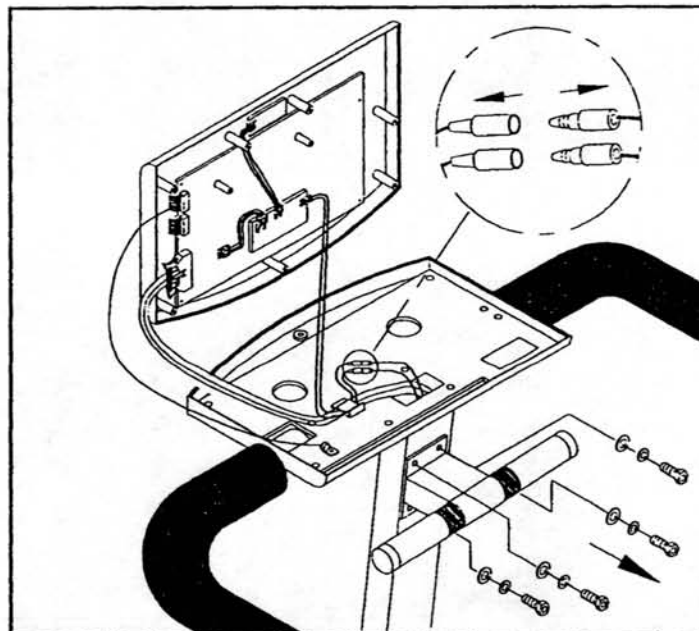

Fig.17-2
2. Unplug the harnesses of HTR HANDLEBAR from the cable of THE ELECTRONICS PACKAGE (see fig.17-2 & its enlarged figure).
Remove all the screws and washers which fixing the HTR HANDLEBAR on the UPRIGHT COLUMN. Take the HANDLEBAR off from the UPRIGHT COLUMN (see fig.17-2).